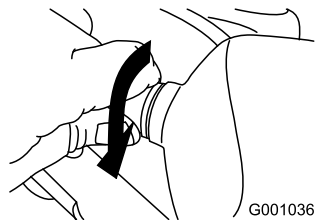

Figure 61
5. Turn the base of the bulb clockwise until it is snug (Figure 61).